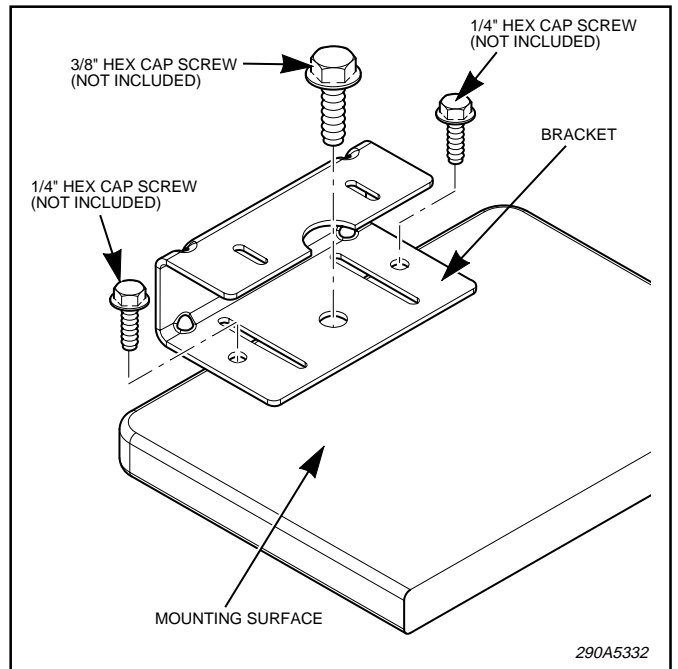

Figure 2.
2. See figure 2. Attach the mounting bracket securely to the intended mounting surface using the appropriate mounting hardware (not included).